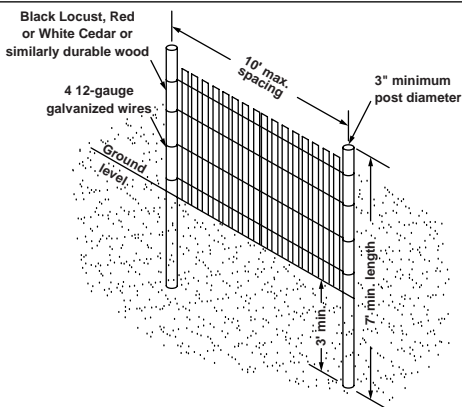

Figure 2. Sand Fence Installation Requirements
- Use standard commercial 4-ft high snow fence that consists of wooden slats wired together with 1-1/4" spaces between the slats (See Figure 2)